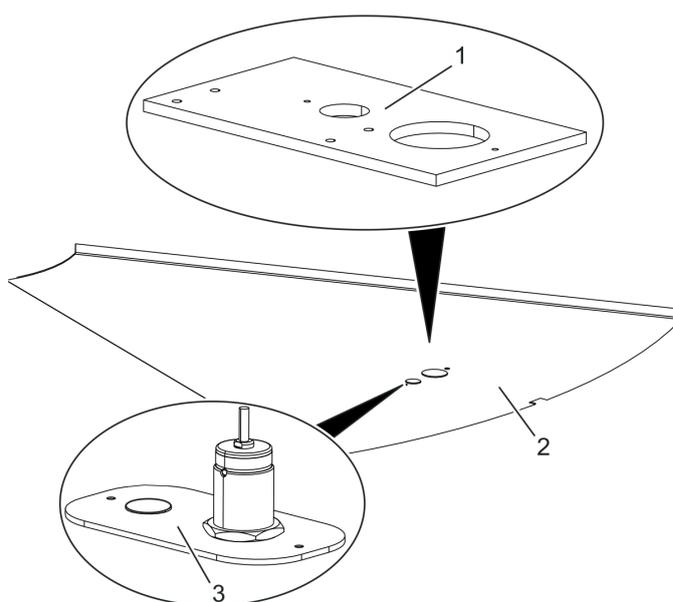

Fig. 118 Fitting mounting plates
1. **i** The holes in the lower ceiling element (Fig. 118/2) correspond to the holes in the mounting plates (Fig. 118/1 + 3).
Position mounting plate with sensor (Fig. 118/3) over the holes in the lower ceiling element from the underside (Fig. 118/2).
2. Position upper mounting plate (Fig. 118/1) over the holes in the lower ceiling element (Fig. 118/2) from above.
3. Screw the two mounting plates (Fig. 118/1 + 3) together through the lower ceiling element